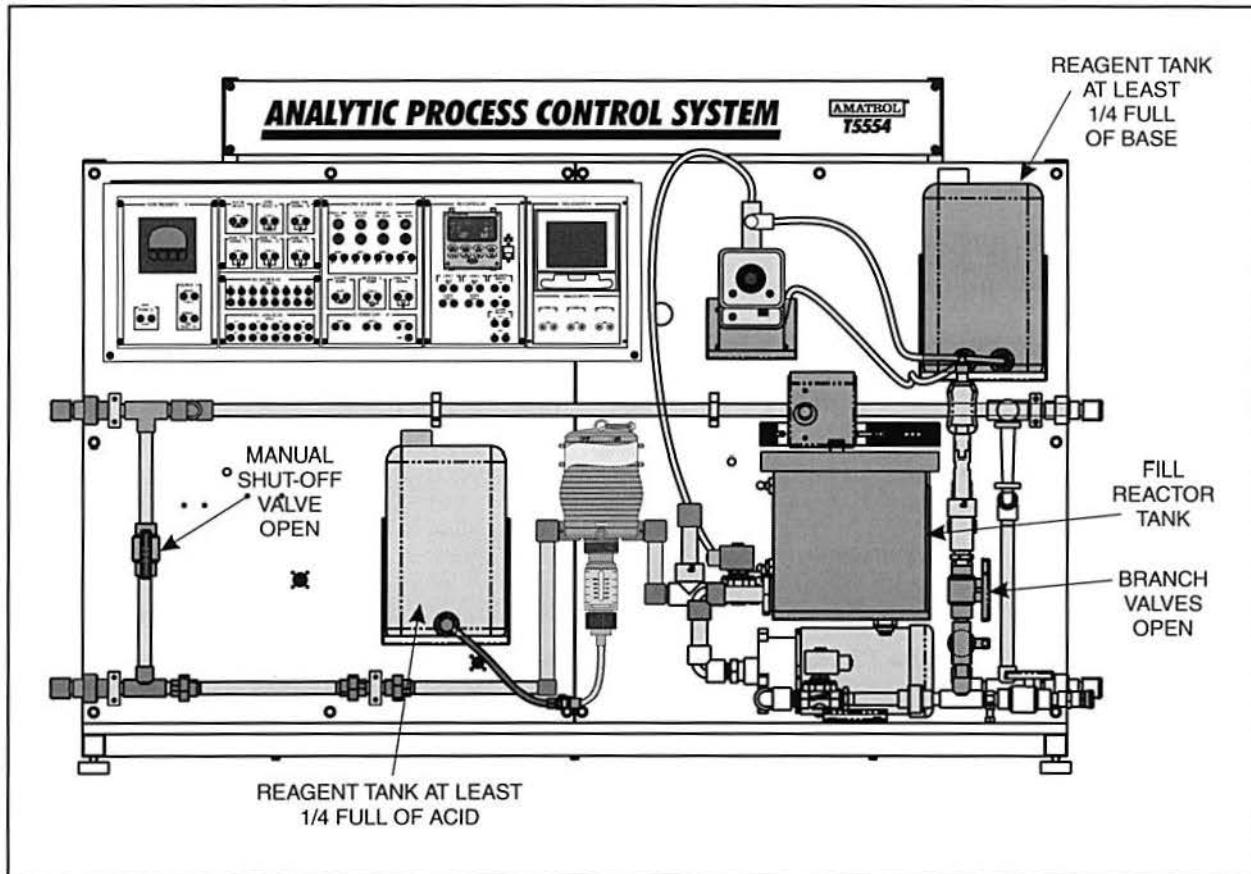

Figure 74. T5554 Setup
- 1. Perform the following substeps to make sure the T5554 Analytical Process Control System is set up as shown in figure 74.